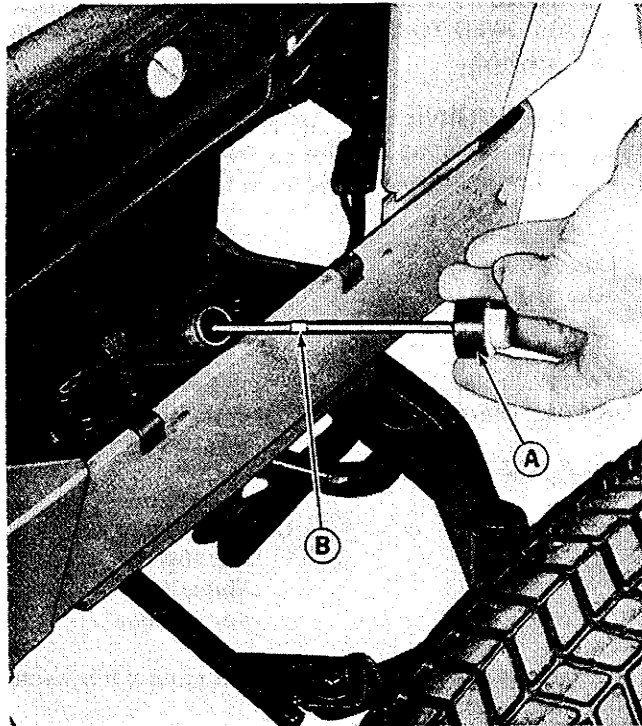

Figure 18. Checking the engine oil at right front of tractor.
CHECK ENGINE CRANKCASE OIL LEVEL: See figure 18. If the engine has been running, allow a minute or two for the oil to drain down into the crankcase before checking the oil level. Proceed as follows:
1. See figure 18. Turn the engine oil filler cap-dipstick (A) counter-clockwise and lift it out.
5. If the oil is below the full line (B) shown in figure 18, add enough oil to bring the oil level up to the full mark. Use the same grade and weight of oil which is already in the engine. **DO NOT OVERFILL THE CRANKCASE.**
6. Replace the filler cap-dipstick (A) and tighten it securely.
4. See figure 18. Remove the filler cap-dipstick (A) and pour 2 quarts of oil into the engine through the oil filler pipe, be-